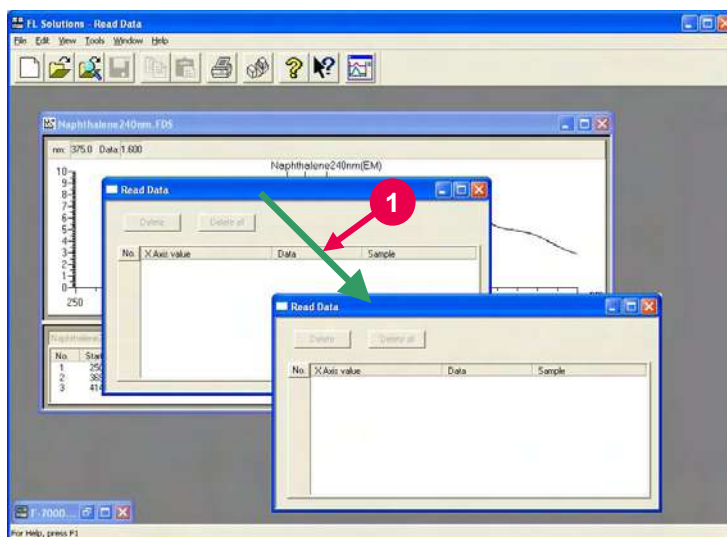

Fig. 7-57
- (2) Select the Read Data command from the Tools menu.
- (3) The Read Data box will appear as shown in Fig. 7-57. Drag the title area (blue) of the box to the lower right. (Refer to ① in Fig. 7-57.)